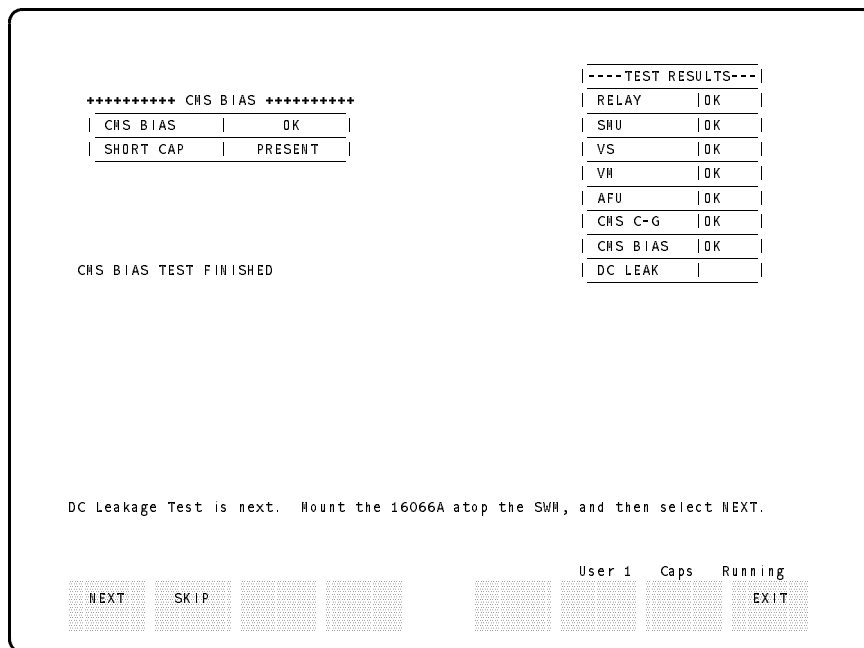

Figure 2-20. CMS Bias Test Results for an HP 4280A
2. Select the **CMS BIAS** softkey. If performing the SEQ Test, select the **NEXT** softkey. (To skip this test, select the **SKIP** softkey.) The CMS Bias Test starts immediately. After the CMS Bias Test is finished, test results are displayed as shown in Figure 2-20.